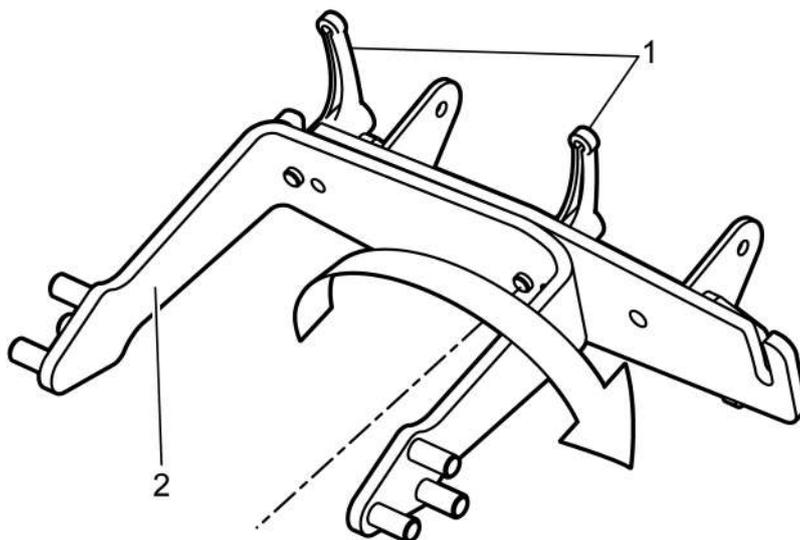
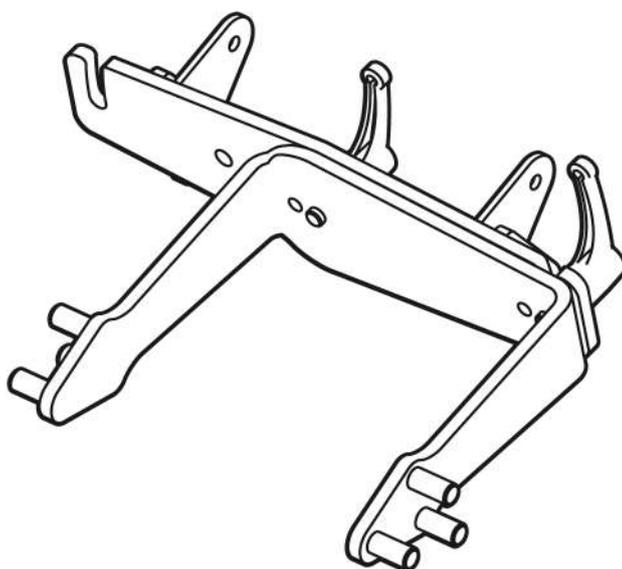

Figure 4-9. Turning the hoop, left - right
Figure 4-10. Hoop in right-hand position
- Slightly loosen the locking knob, see position 1 in *Figure 4-9, page 24*.
- Turn the hoop 180°, see position 2 in *Figure 4-9, page 24*. Then firmly lock the locking knob (*Figure 4-10, page 24*).